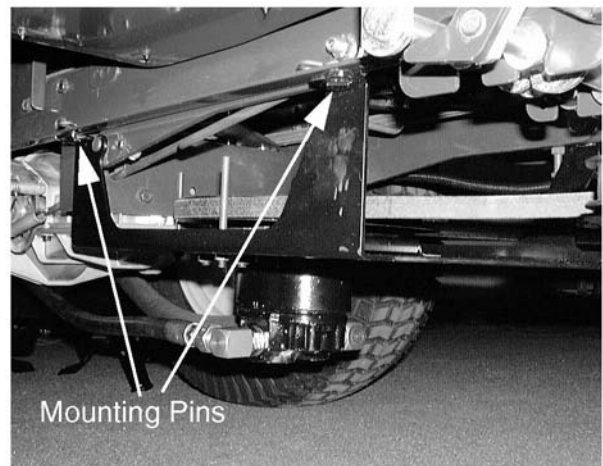

Figure 8-68.
9. Fasten the four mounting pins into their holes with the washers and hairpin clips. See Figure 8-68.